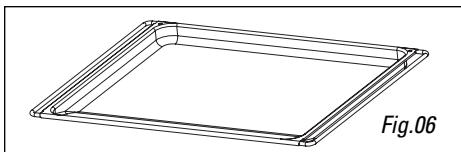

Fig.06
- The enamel tray (Fig.06):** It may be used half filled with water for "bain marie" cooking or fan cooking. It may also be used as a cooking dish.